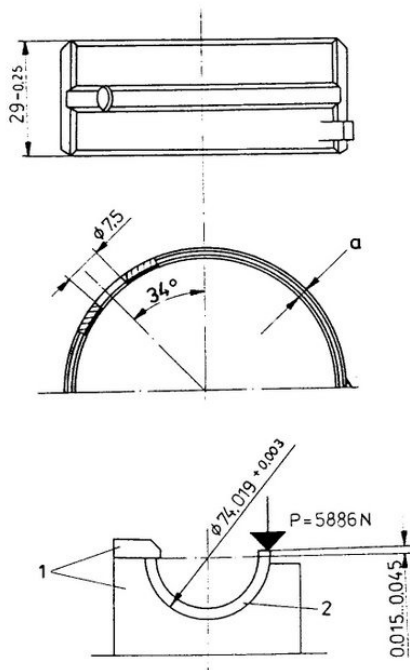

Fig. 20. Main bearing half shell
- Replace all worn halfshells of the main bearings (Fig. 20).